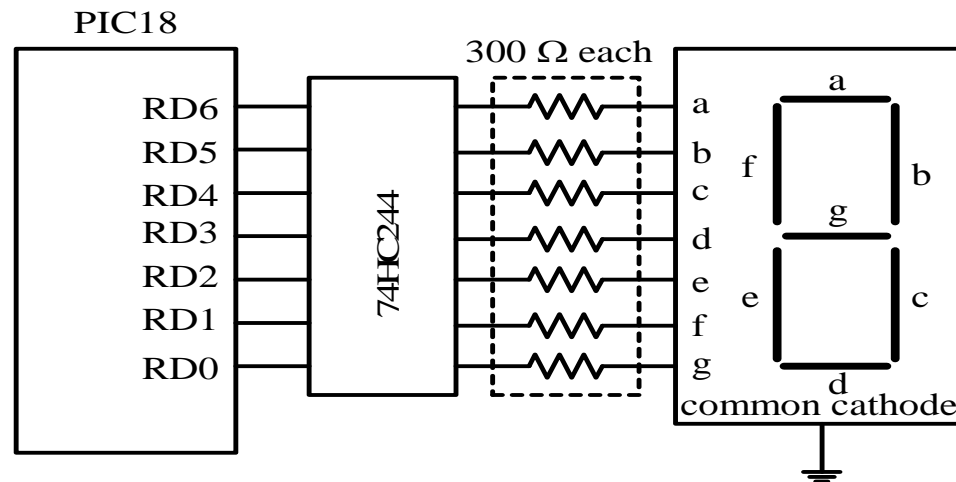

Figure 7.16 Driving a single seven-segment display
- A one-display circuit is shown in Figure 7.16.
- To display a decimal digit, appropriate pattern must be output to port D in Figure 7.16 and 7.17. These patterns are shown in Table 7.2.